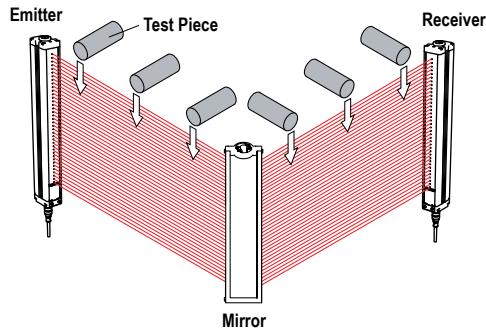

Figure 25. Trip Test with Corner Mirror
5. If mirrors are used in the application: Test the defined area on each leg of the sensing path (for example, emitter to mirror, between mirror and receiver, see Figure 25 on page 39).